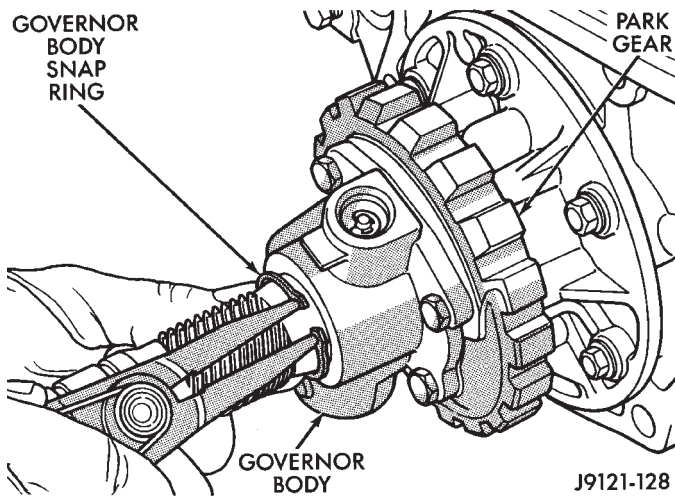

Fig. 145 Installing Governor Body Snap Ring
(7) Install snap ring that retains governor body on output shaft (Fig. 145).